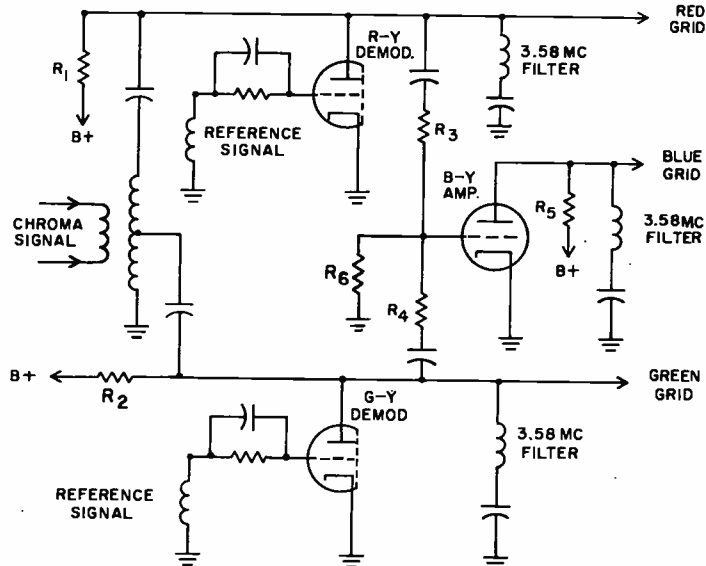

Fig. 22. Basic circuit of R-Y, G-Y demodulator using two triodes.
The amplitude of the R - Y and G - Y color difference signals are controlled by the amplitude of the chrominance signals applied to the demodulators. As shown in the basic circuit of the R - Y, G - Y demodulator in Fig. 22, the chroma input to the G - Y demodulator is taken from a tap on the chroma transformer secondary. This sets the correct relative amplitude of the R - Y and G - Y color difference signal. You will recall that the B - Y color difference signal was attenuated most at the transmitter to prevent
- (n) Why aren't the demodulators in Fig. 22 operated in quadrature?